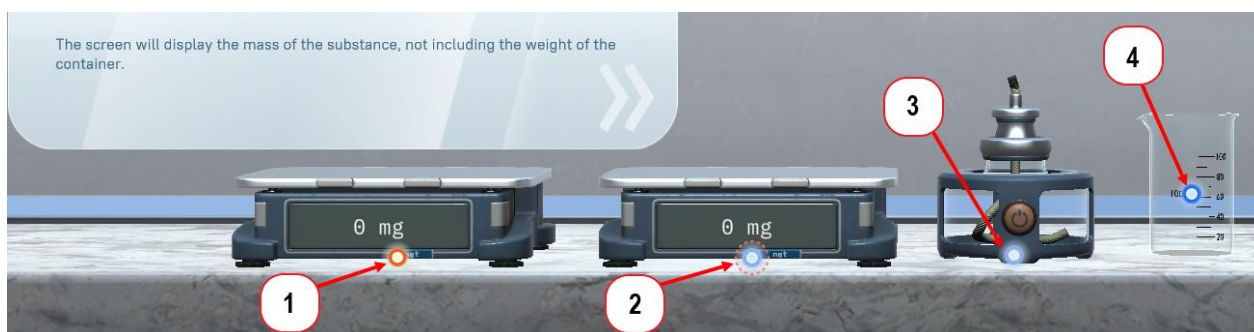

Figure 8 – Different outline colours for tip points
Tip points change their outline colour depending on whether the user has viewed the tip (Figure 8):
- 1) Dot with orange outline  — the tip is open on the screen (as in Figure 8).